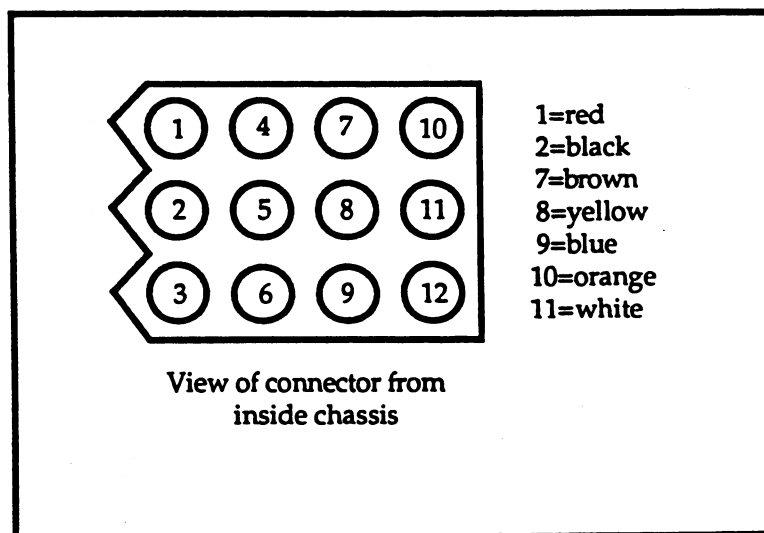

Figure 4-12. Relm Bulkhead Connector Pinout
- []9. Insert the female 0.093-inch sockets from the jumper cable into the 12-position plastic bulkhead connector per the pin numbers shown in Figure 4-12.